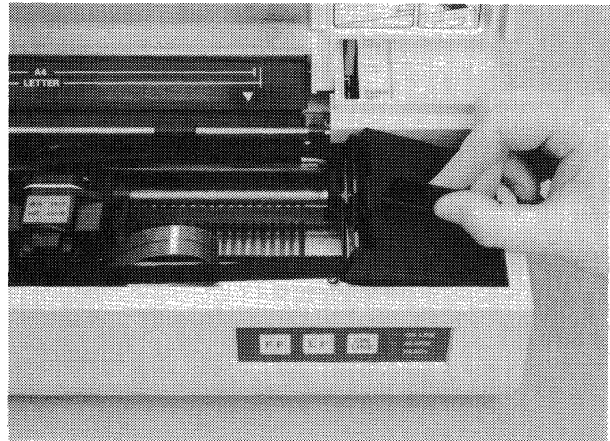

Figure 2-3B Seating the Ribbon Cassette into the Right End of the Printer
3. Draw the cassette to the right end of the printer and seat the right end of the cassette as shown in Figure 2-3B.